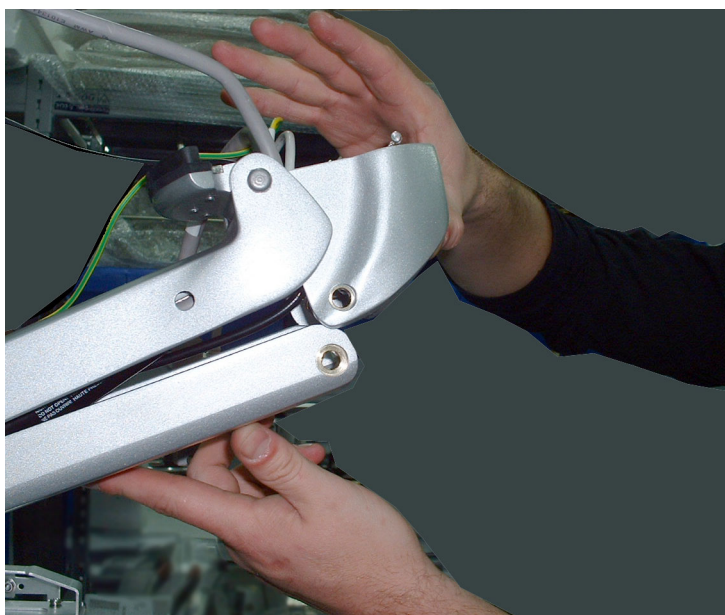

Figure 8-248 Raising Lower Arm to Reconnect with Upper Arm (Console not shown)
- 5) Lower the console and raise the Lower Arm to insert the upper support pin previously removed - Figure 8-248.